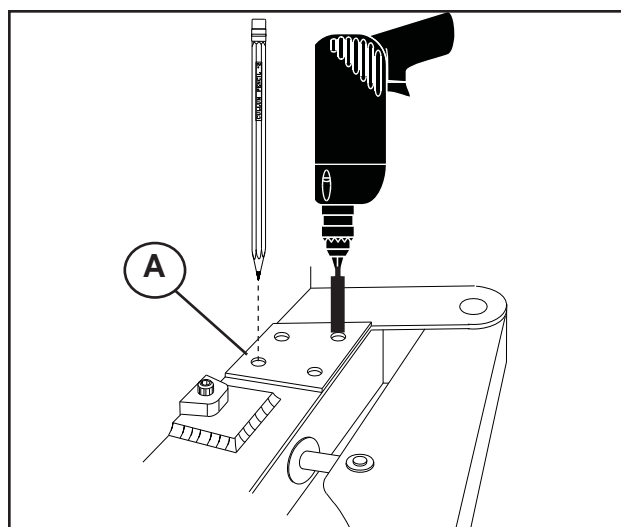

Figure 1 - Place template/spacer, mark location and drill holes.
The shipping box is mounted in a steady wooden pallet. The machine should be transported only with an appropriate lifting device (fork lift) Fig.1.
A. Place the drilled template/spacer plate "A" as shown in Figure 1. The square angle must be in contact with the side wall of the Cabinet *and* with the reinforcement welds.
IMPORTANT! THE DRILLED PLATE ("A" FIGURE 1) MUST BE LEFT AS A SPACER BETWEEN THE DEVICE AND THE BEAD BREAKER BEAM.